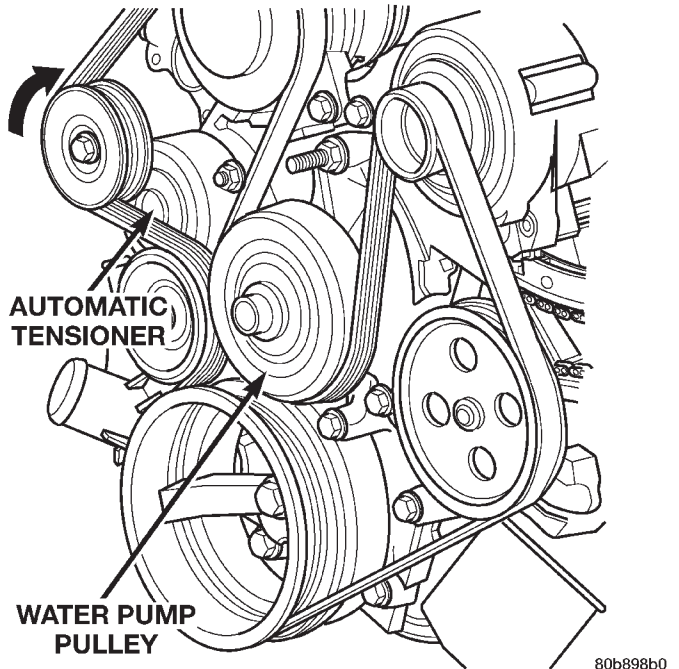
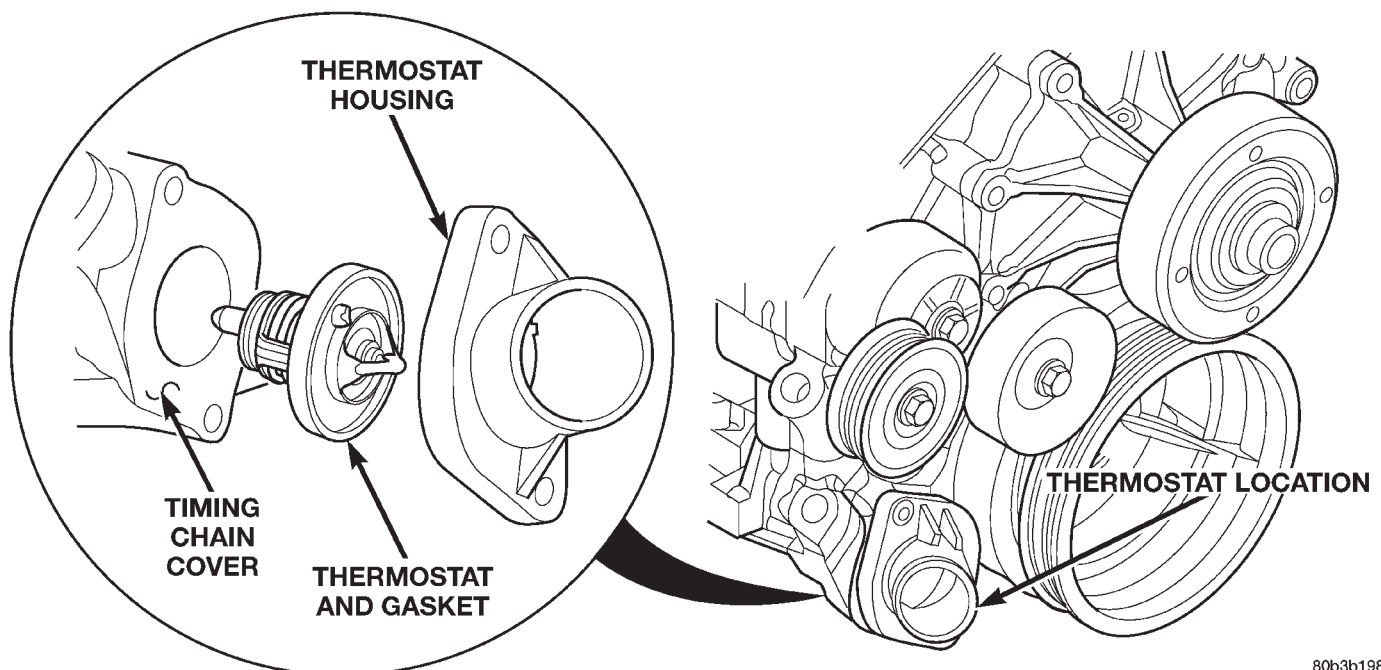
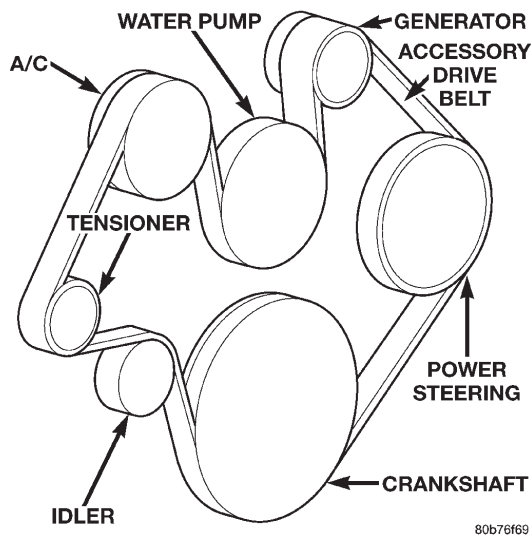

Fig. 38 Accessory Drive Belt and Tensioner 4.7L
Fig. 39 Thermostat and Thermostat Housing 4.7L
Fig. 40 Accessory Drive Belt Routing—4.7L
- (1) Disconnect negative battery cable at battery.
- (2) Drain cooling system until coolant level is below thermostat. Refer to Draining Cooling System in this group.
- (3) Remove accessory drive belt (Fig. 38).
- (4) Remove lower radiator hose clamp and lower radiator hose at thermostat housing.
- (5) Remove thermostat housing mounting bolts, thermostat housing and thermostat (Fig. 39).
- (2) Install thermostat (spring side down) into recessed machined groove on timing chain cover (Fig. 39).
- (3) Position thermostat housing on timing chain cover.
- (4) Install two housing-to-timing chain cover bolts. Tighten bolts to 23 N·m (200 in. lbs.) torque.
CAUTION: When installing the serpentine accessory drive belt, belt must be routed correctly. If not, engine may overheat due to water pump rotating in wrong direction. Refer to (Fig. 40) for correct 4.7L engine belt routing. Or, refer to the Belt Routing Label located in the engine compartment. The correct belt with correct length must be used.
(6) Position drive belt over all pulleys **except** water pump pulley (located between generator and A/C compressor) (Fig. 40).
(7) Attach a socket/wrench to pulley mounting bolt of automatic belt tensioner.
(8) Rotate socket/wrench clockwise. Place belt over water pump pulley. Let tensioner rotate back into place. Remove wrench. Be sure belt is properly seated on all pulleys (Fig. 38).